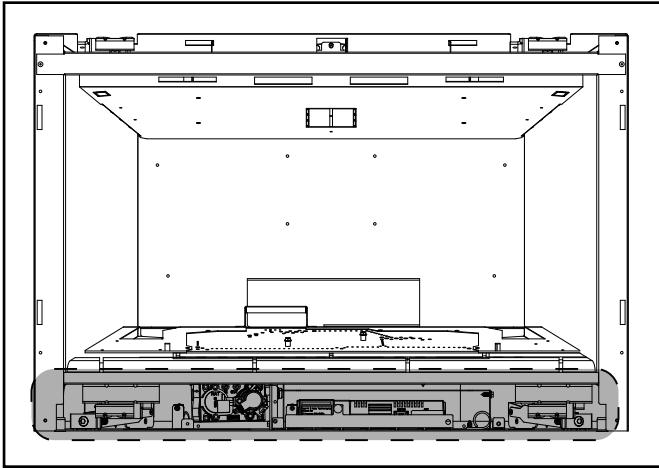

Figure 3.5 Control Cavity
- Verify collar slide plate screw is attached see Figure 3.5.
- Access to the control cavity (Figure 3.5) will require the decorative barrier front, glass panel and the glass seal plate to be removed.